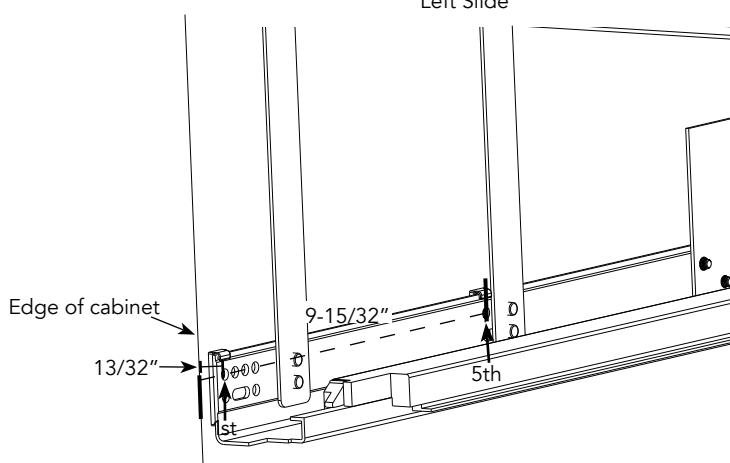

FIG. H-2
Attach (2) of the Blum spacers to the **right** slide. Attach one spacer in the first hole and the other spacer in the last hole (**See Figure H-2**).